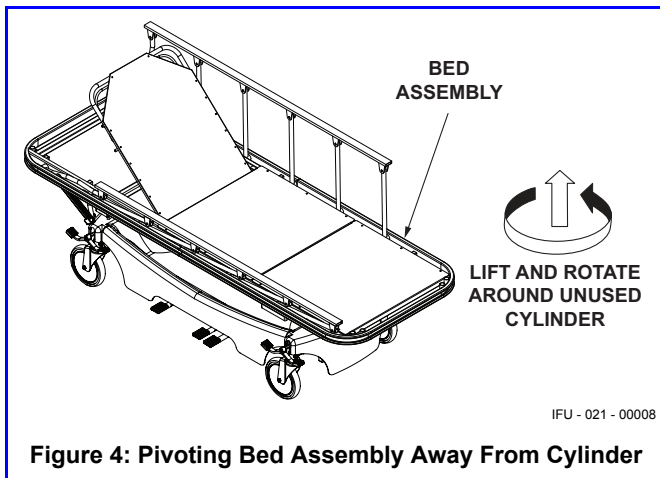

Figure 4: Pivoting Bed Assembly Away From Cylinder
6. Lift upward on Bed Assembly (p/n: STR0110) and pivot the entire assembly to the side. See Figure 4. Support the Top Stretcher Assembly (p/n: PTF1000-29-Top-AS) with an adjustable saw horse or rolling cart. The top assembly weighs 126.6 pounds (57.2 kg). Any object can be used as long as it can support the weight of the bed top assembly and is tall enough to keep the bed assembly stable so that it will not tip over.